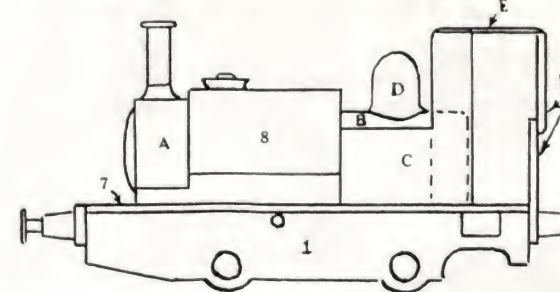
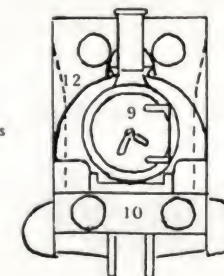

Fig. 1
Fig. 2
Figures 1 and 2 show drawings (actual size) of the model. Letters have been used to denote parts made from sprue or 20 thou plastic card (black for choice); the numbers are those used for parts in the saddle tank kit. The footplate (7) is first cut to size, working from a centre line as an aid to symmetry. Tool boxes, locating stubs for couplings and 4.5 mm strips from either side were carefully removed. All small projections were filed down flush with the underside. The footplate was then shortened to 58 mm by removing a strip at the rear only, taking care to keep corners square.
The two halves of the boiler (8, 8A) were now cemented together and when thoroughly dry, the chimney, filler cap and dome were removed with a new blade in the craft knife. Cuts were made at a slant, from each side, rather than going straight across. Front and rear sections of the boiler were then removed to give the shape shown in Fig 1. The front lug was retained with a small section of plastic above it to
The rear of the boiler (B) was again made from a strip of plastic card bent into a circle of 12 mm diameter and cemented. Parts A and B could, of course, be made instead from a suitable length of plastic tubing, eg. from a doctor's disposable syringe. The front of the cab is produced from part 12 as follows. The firebox is sawn off and a centre section 6 mm wide is removed from the plating. The two halves are then cemented together, squared at the top, and the joint strengthened by cementing on the firebox, reduced in length by half as shown in Fig 1. The rear of the cab was similarly made from part 13. As well as removing a 5 mm central section, a horizontal cut was made just above the central row of rivets so that the characteristic 'step' could be produced by overlapping (see Fig 1). Some additional filing was also required to give the shape shown by the dotted lines in Fig 2.
The Talyllyn No 1 chimney does not taper as does the Airfix part, so a little work with a file is required at the top to produce the desired effect. The chimney and filler cap are cemented in place as shown in Fig 1. The dome (D) was shaped up from a piece of sprue.